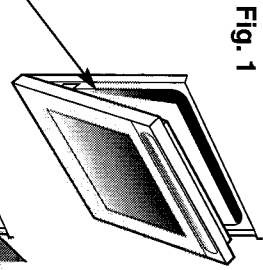

Fig. 1
- b. An air gap of 50 mm minimum must be provided at the rear of any top or bottom cupboards or shelves. (See Fig. 1 page 6.)
cupboards above the oven unit to ceiling height it is essential that the warmed air is exhausted through the front of the cabinet Fig. 1. (See page 6.)
1. Position top or main oven door as shown in Fig. 1. **NOTE:** The door can be wedged open using a towel between the door and the side trim thus leaving your hands free.